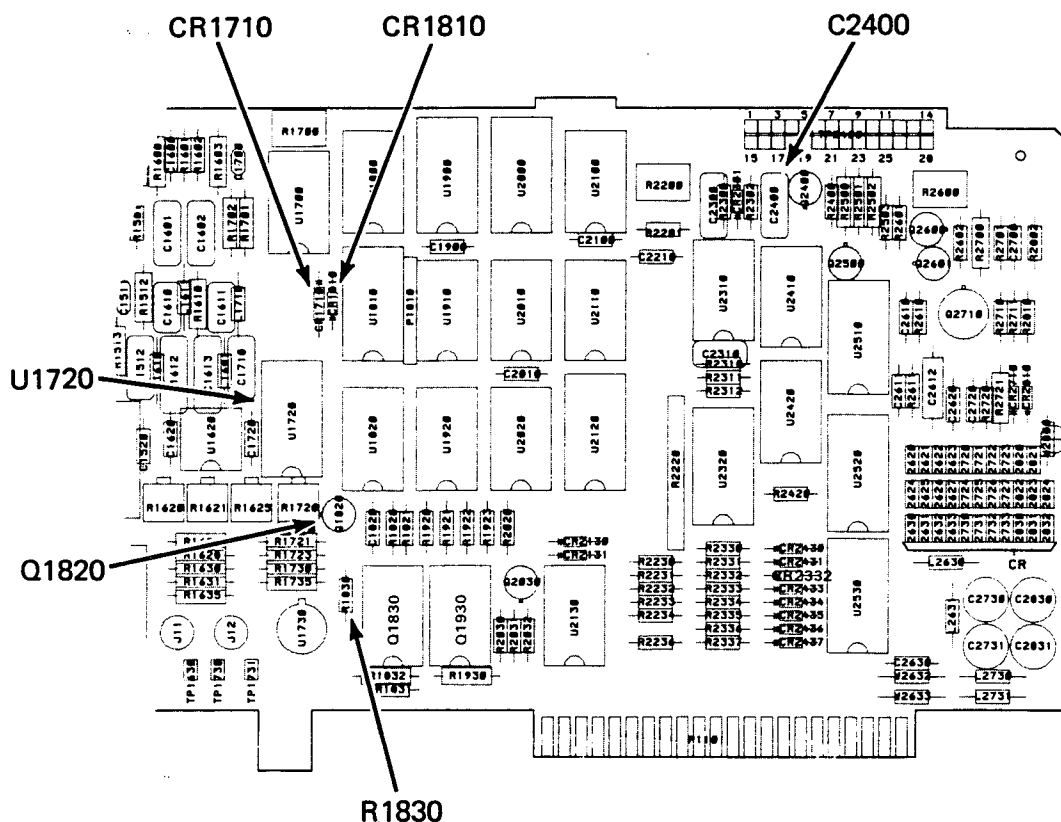

Fig. 1. Partial component side of the Display circuit board, A29, showing affected component locations.
- () 7. Remove the following components from the Display circuit board (see Fig. 1 on the next page for locations):